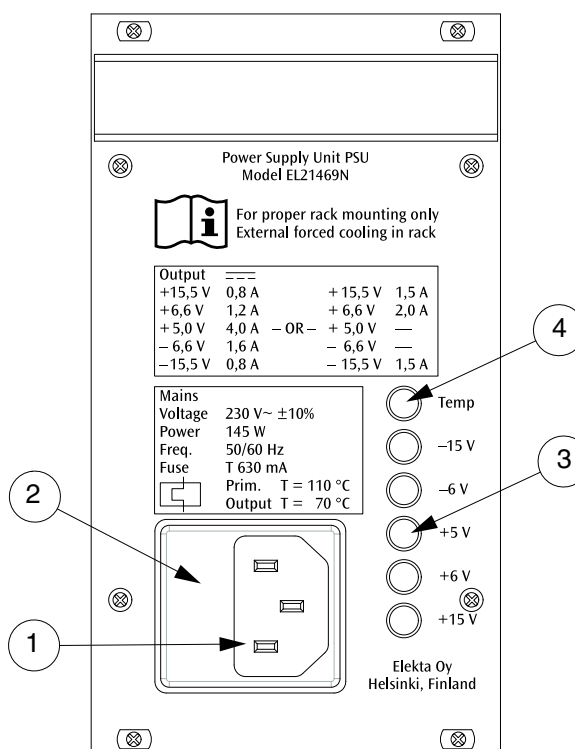

Figure 6.3
1. Make sure that the main switch (1) of the mains control panel is in the *On* position.
2. After turning the main switch (1) to *On* position, wait until the ethernet switch has started up, indicated by the *Self test* and *Fail* indicators going off. Bootup takes about one minute.
3. Switch on the main electronics rocker switch (2) from the mains control panel. Wait until all electronics boards of the MEG and EEG racks show steady green *Run* lights and the *Fail* lights are off. Boot-up takes about 30–60 seconds. If the bootup fails, open the back door of the main electronics cabinet and check the indicator LEDs of individual power supplies, see Fig. 6.3. The main electronics racks must be booted before preamplifiers because the preamplifiers are controlled by one of the main electronics boards.
4. Switch on the preamplifier rocker switch (3) from the mains control panel to *On* position.
Note: *Individual main electronics power supply units will not start up if any of their red/yellow indicator LEDs on the back, see Fig. 6.3, is lit. This may happen if a powerup is made immediately following power-down of the unit.*
All mains (primary) circuits of the power supply units are fused. All fuses are accessible at the back planes of the power supply units with the correct values of the fuses marked in the immediate vicinity, for details see Figs. 6.3 and 6.4. A “T” before the rated current in amperes indicates slow (time-lag) type and an “F” fast type. If no type has been indicated, use fast type fuses. The power supply units have a spare fuse in the fuse holder.
If any output current of a dc electronics power supply unit exceeds its limit, the unit will turn off all its output voltages, and the indicator LED (3) of Fig. 6.3 for that voltage will turn red.
If any output voltage of a main electronics power supply unit falls below its limit, the indicator LED (3) of Fig. 6.3 for that voltage will turn yellow as long the problem persists.
The main electronics power supply units have two temperature-protection mechanisms. If the internal temperature of the low-voltage side exceeds the limit marked on the cover (secondary), the unit will turn off all its output voltages, and the indicator LED (4) of Fig. 6.3 for the temperature will turn red. If the temperature of the power supply unit transformer exceeds the limit (primary) marked on the cover, a thermal switch will shut off the mains supply to the unit and all indicators (3) and (4) of Fig. 6.3 will be dark.
Each main electronics board has a recessed *Reset* switch on its front panel, see Fig. 6.5. If the board becomes locked up (e.g. showing red fail light or it is reported by the data acquisition software as been dropped from acquisition) press the *Reset* switch. Boot-up of the boards starts automatically. Wait until the board shows steady green *Run* lights and the *Fail* lights are off. Boot-up takes about 30–60 seconds. If the bootup fails, open the back door of the main electronics cabinet and check the indicator LEDs of individual power supplies, see Fig. 6.3. Reset the power supplies as instructed in sections 6.4.2 and 6.4.4 if necessary.